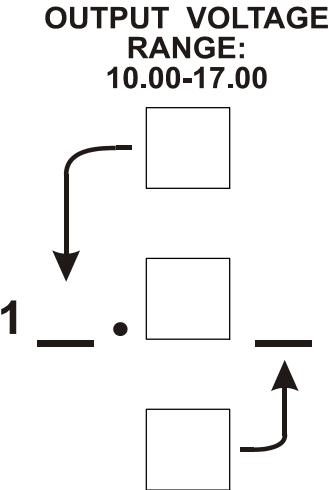

Figure 8.1
The battery charger is adjustable with the three rotary switches on the front of the charger. The switches (settable between 10.00 and 17.00) determine the float voltage for the batteries. **SET THE FLOAT VOLTAGE TO THE BATTERY MANUFACTURER'S SPECIFIED VOLTAGE FOR 77°F.** The charger will then electronically charge the batteries to the voltage specified on the switches. To set the switches, use a small screwdriver and turn the switch so that the arrowhead on the slot is pointing to the desired number. Set the switches in the following manner: If the desired battery voltage is 13.38 volts, set the top switch to 3, the middle switch to 3, and the bottom switch to 8 (see the figure 8.1). This will provide you with the proper charging voltage. The tens digit is always a one (1) and cannot be changed. **BE SURE EACH SWITCH IS SET ON A NUMBER AND NOT BETWEEN NUMBERS.** If a switch is set between numbers, the